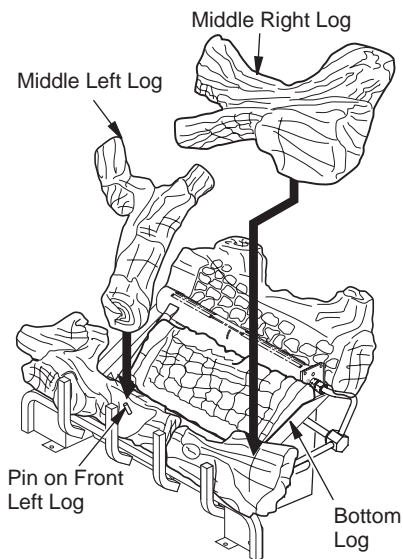

Figure 25 - Installing Top Logs
5. Place middle right log over front right and bottom logs as shown in Figure 25. Be sure hole in middle right log seats over pin in bottom log.
6. Place middle left log over front left and bottom logs as shown in Figure 25. Be sure hole in middle left log seats over pin in front left log.